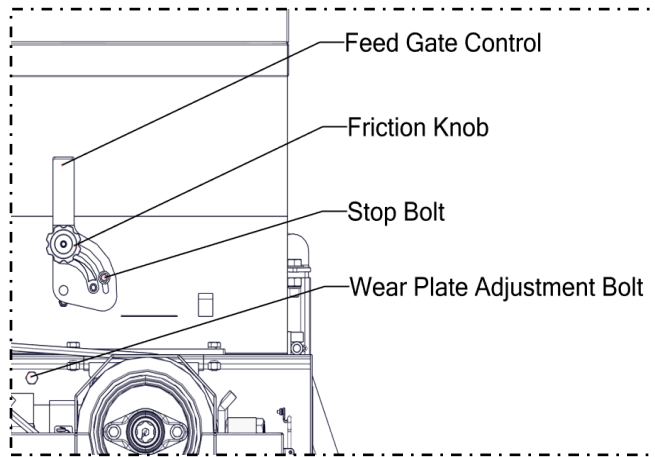
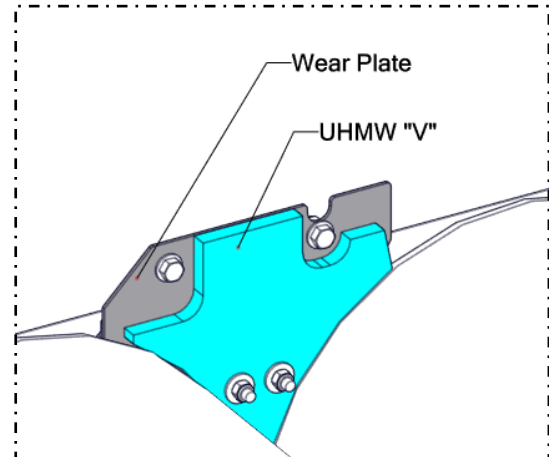

Figure 4.6
Figure 4.7
Set the friction knob (Figure 4.6) so that it supports the weight of the feed gate and yet allows the gate to be opened and closed by hand. Note that the setting of the feed gate helps to spread the feeding of grain evenly across the face of the roll. The feed gate also serves to limit the overall flow of grain through the rolls.
Wear plates (Figure 4.7) are used to keep grain from escaping around the ends of the rolls. The positioning of the wear plates can be seen when the feed gate is fully open. A noise can be heard if the wear plates are contacting the rolls. To remedy this, loosen the jam nut and wear plate adjustment bolt (Figure 4.6) until the noise stops. Alternately, if the gap is excessive, turn the bolt into the plate until the plate touches the roll, then back off until the noise stops. Tighten the jam nuts when the desired setting is obtained. Be sure to maintain the position of ‘UHMW “V”’ (Figure 4.7) to cover the chamfer at the ends of the rolls. Replace as necessary.
2. Ensure that the feed gate is closed (Figure 4.6) before starting the mill. Even a few grains will keep the rolls from turning. Start the rolls turning at minimum RPM and slowly increase the RPM speed to 540.
6. When finishing the rolling process, always clean the top hopper out completely, and close the feed gate. Note that the feed gate stop bolt (Figure 4.6) can be used to set a consistent opening point. This maintains product consistency each time rolling is performed.